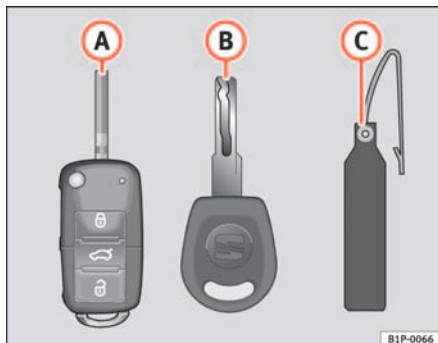

Fig. 62 Set of keys
- one remote control key ⇒ fig. 62 **A** with folding key bit,
Spare keys cannot be issued without the key number on the key tab ⇒ fig. 62 **B**. Therefore:
- Use both keys that have been delivered with the vehicle ⇒ page 97, fig. 62, the key fitted with the remote control  and the normal key .